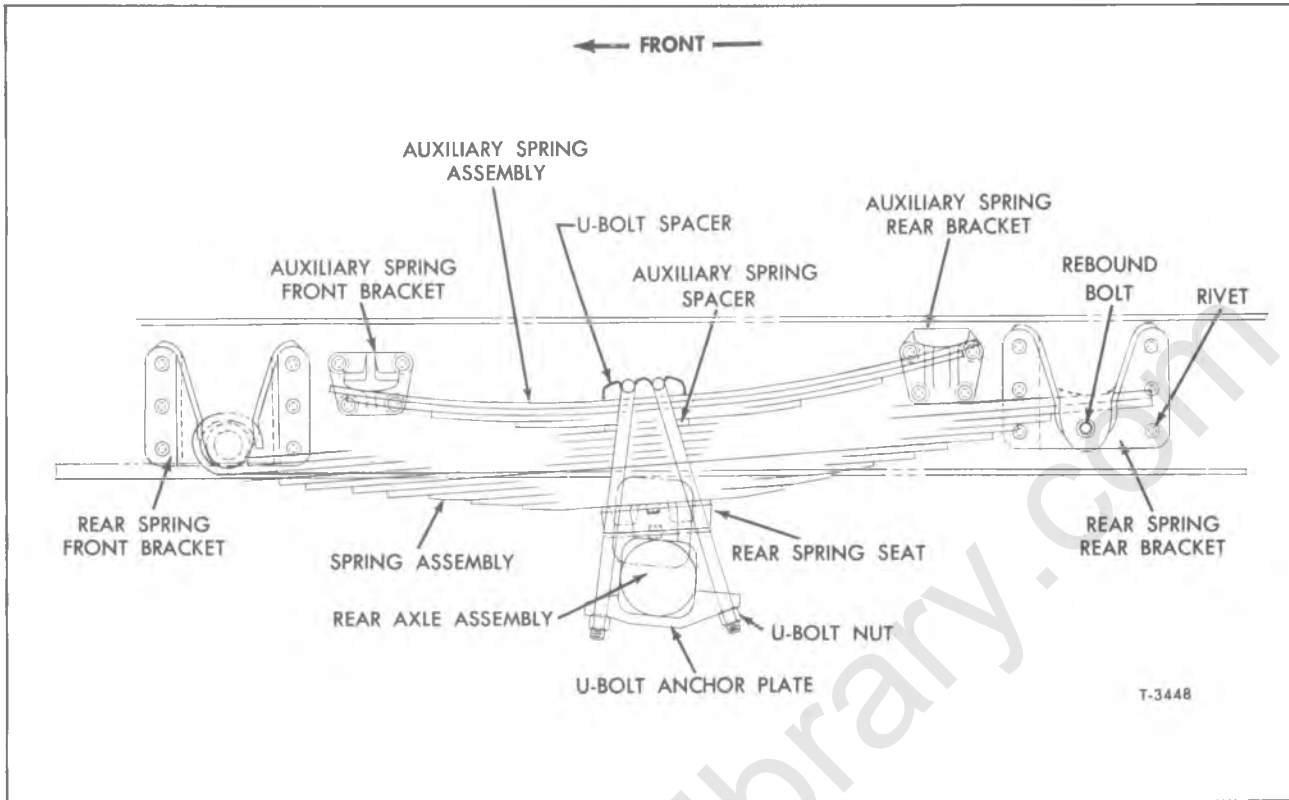

Figure 2—Rear Springs Installed (Typical for "S" Models)
5. On "S" Series, remove rebound bolt nut and washer, then remove the rebound bolt (refer to fig. 2).